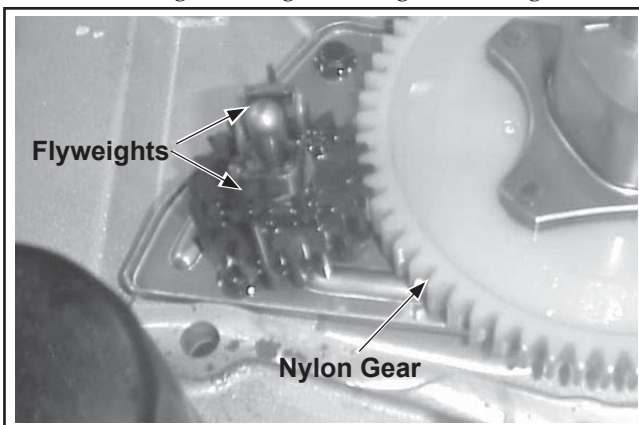

**Figure 5-23. Location of Governed Idle Adjusting Screw.**
3. Release the governor lever and allow the engine to return to the governed idle speed. Check it with a tachometer against the equipment manufacturers recommended idle speed. If adjustment is necessary, use the governed idle adjusting screw on the speed control assembly (see Figure 5-23). Turn the screw clockwise to increase the governed idle speed and counterclockwise to decrease it.